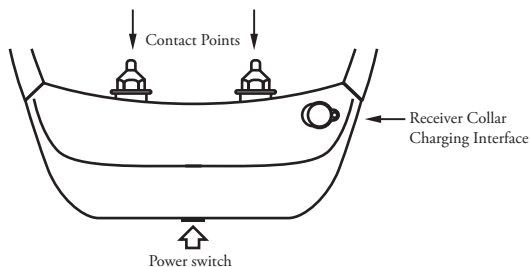

figure 2 – Receiver Collar Power Switch and Charging Interface
1. Press the Power Switch (*figure 2*) for three seconds to turn on the Receiver Collar (the red light will go solid and begin to blink every four seconds if sufficiently charged)